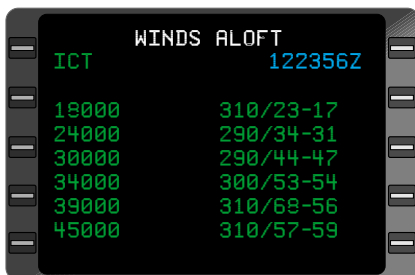

Figure 7-61
9. If there are identifiers, upon depressing the **ENT** Key, the **WINDS ALOFT** Data Pages pertaining to the selected identifier appear. (Figure 7-61)